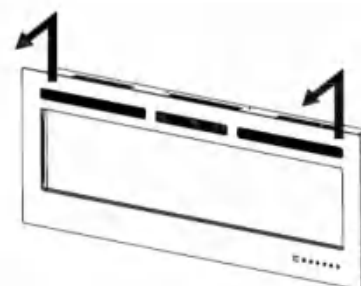

Figure 3
- D. Carefully lift the glass panel off the fireplace and place it on a soft, clean surface. [Figure 3]